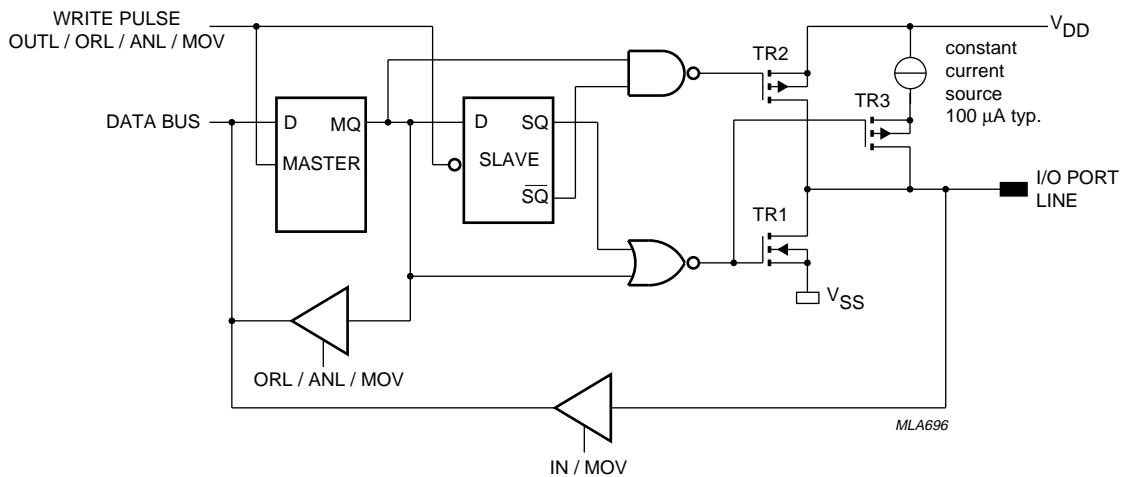

Fig.11 Standard output with switched current source.
The standard port configuration is illustrated in Fig.11. When a logic 0 is written to the master/slave flip-flop, TR2 and TR3 are both in the OFF condition. TR1 turns ON and drives the output to V_{SS} .
All standard and derivative port accesses are performed by two-cycle instructions. Their instruction timing is shown in Fig.11. For input, data on port lines is sensed during timeslots 3 and 4 of machine cycle 2 (see Sections 6.10 and 6.11). For output, the data change occurs in timeslot 7. For OUTL, data changes during machine cycle 1. For ANL, ORL and MOV Dx, A, data changes during machine cycle 2.
- Option 1 **Standard Port**; quasi-bidirectional I/O with switched pull-up current source of 100 μ A (typ.) and p-channel booster transistor TR2. TR2 is only active for 1 clock cycle during LOW-to-HIGH transitions (see Fig.11).